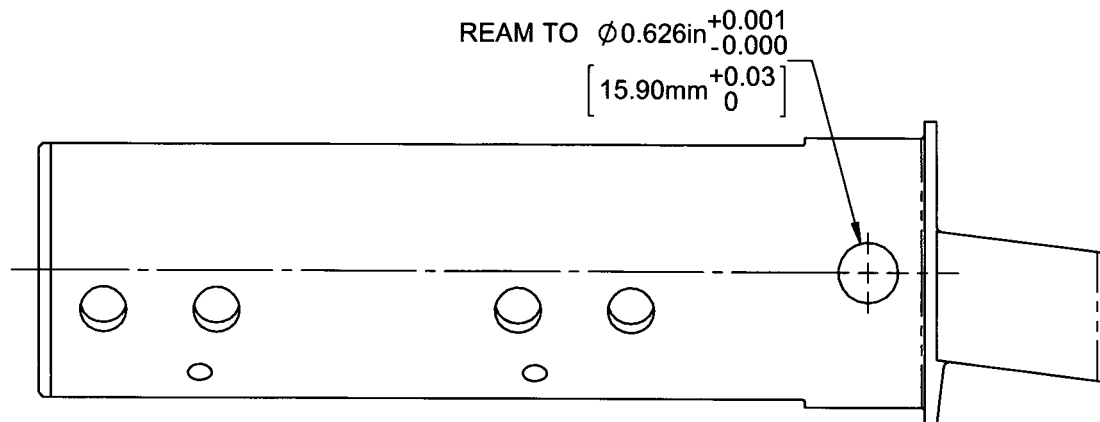

FIGURE 1: Blade Fitting Assembly Rework
- 2.1 Locate $\varnothing 0.508$ in (12.9mm) hole in the D3488-041/-042 Blade Fittings and enlarge to $\varnothing 0.610$ in (15.5mm), then ream to $\varnothing 0.626$ in $+0.001$ in/ -0.000 in (15.5mm $+0.15/-0$) as shown in Figure 1 of this Service Instruction.